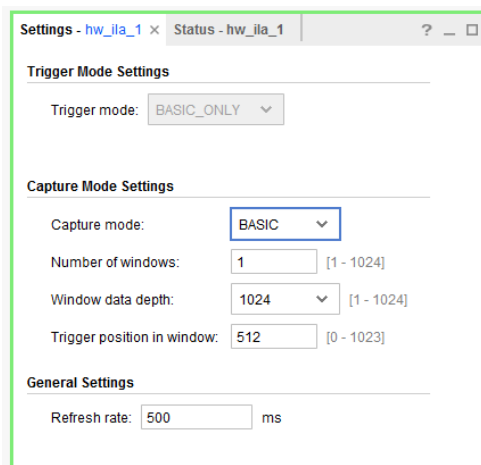

Figure 3.17: ILA Settings window
6. In the **ILA Settings** window, change the **Capture mode** to be **BASIC** in the **Capture Mode Settings** section, see Figure 3.17.